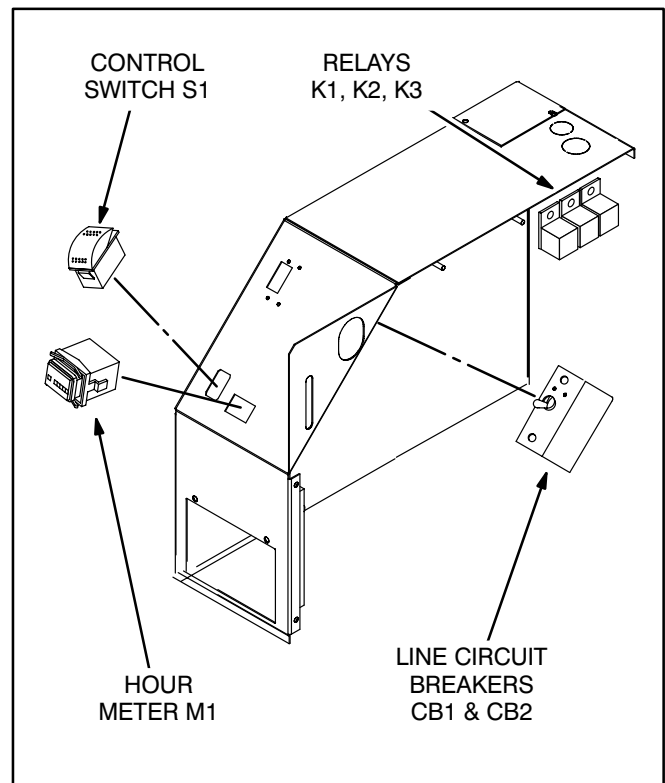
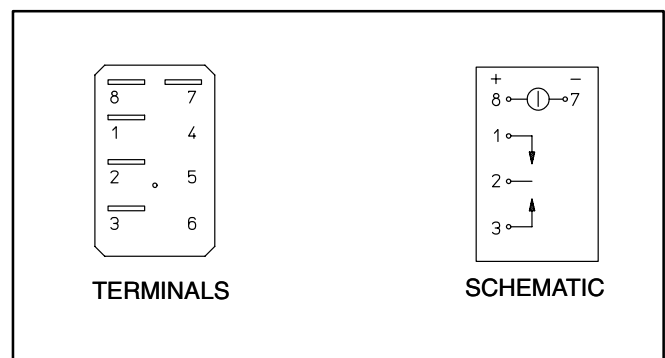
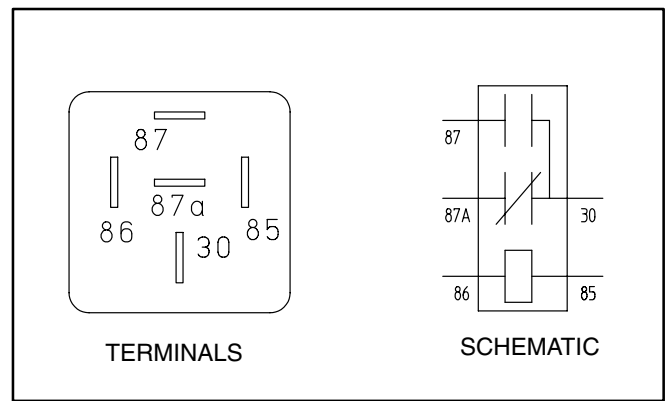

FIGURE 11-3. CONTROL COMPONENTS
FIGURE 11-4. CONTROL SWITCH S1
FIGURE 11-5. RELAYS
Local Control Switch S1: Switch S1 is mounted on the control panel (Figure 11-3). Unsnap connector **P9**, which is accessible through the front access door. Referring to Figure 11-4, replace the switch if:
The hour meter (Figure 11-3) is mounted on the control panel and is accessible for replacement through the front access door. It cannot be reset.
The line circuit breakers (Figure 11-3) are mounted on the control panel and are accessible for replacement through the front door. Disconnect all wiring and check electrical resistance across the terminals of each circuit breaker. Replace a circuit breaker that does not reset or that does not close or open as the handle is turned ON and OFF.
These relays are secured in a row above the intake resonator (Figure 11-3) and are accessible for replacement by removing the top enclosure panel. To test a relay, apply 12 VDC across terminals 85–86 (Figure 11-5). Replace the relay if 30–87a (NO) does not close or 30–87 (NC) does not open, or either does not return to its normal position when power is removed.